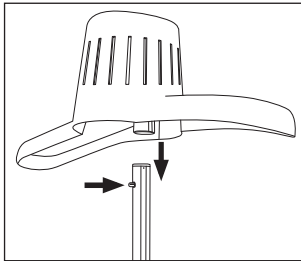

Fig. 1: Attaching the hanger **1**
- ▶ To remove the telescopic shaft **❹** again if necessary, press the release button  **❼** and pull out the telescopic shaft **❹**.
- ◆ Adjust the height of the telescopic shaft **❹**. Open the locking clip **❸**, pull out the telescopic shaft **❹** to the desired height and tighten the locking clip **❸** again. Pull the telescopic shaft **❹** far enough out so that the hanger **❶** can be attached.
- ◆ Place the hanger **1** on the telescopic shaft **4** so that the curved arms face the front of the appliance. Push the locking stud **2** in and slide the hanger **1** over it until the locking stud **2** engages (Fig. 1).